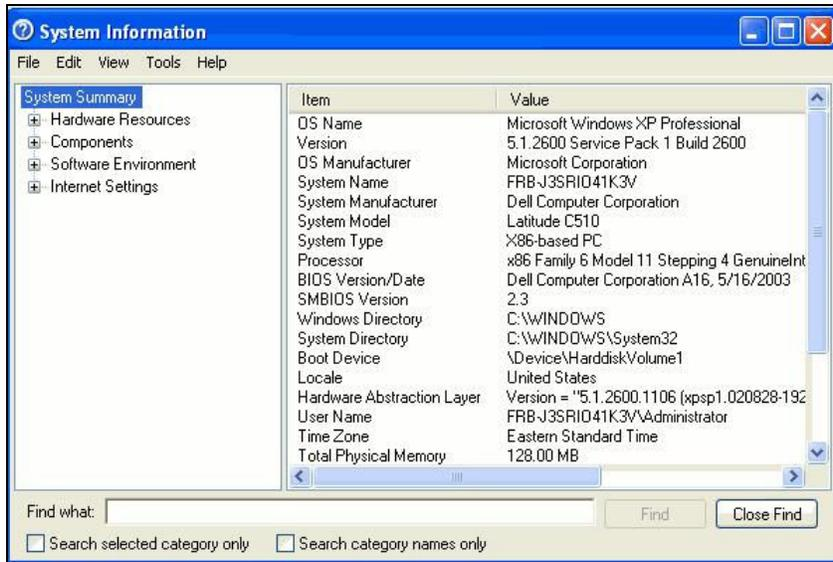

Figure 4.22
3. The Help window can also be used to obtain information about the POS computer. Click on the '**System Info**' button at the bottom of the window to display information about the computer. (Figure 4.22)